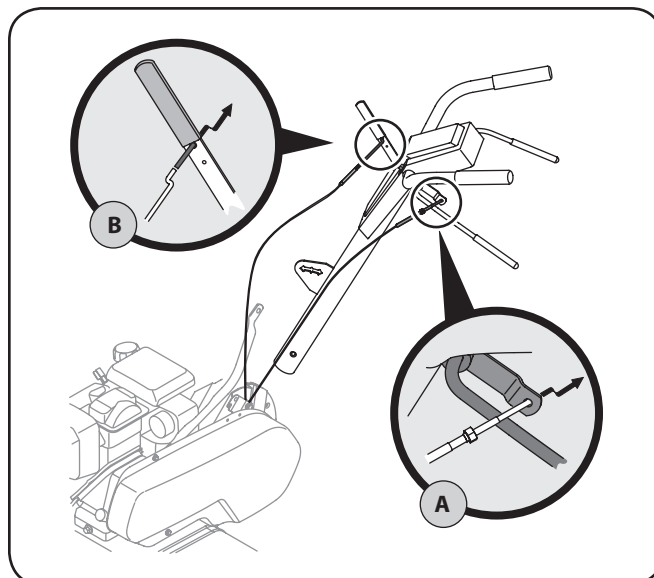

Figure 3-2
2. Hook the "Z" end of the forward clutch cable (A) into the forward tine engagement lever Figure 3-2.
3. Hook the "Z" end of the reverse clutch cable (B) into the reverse tine engagement lever Figure 3-2.